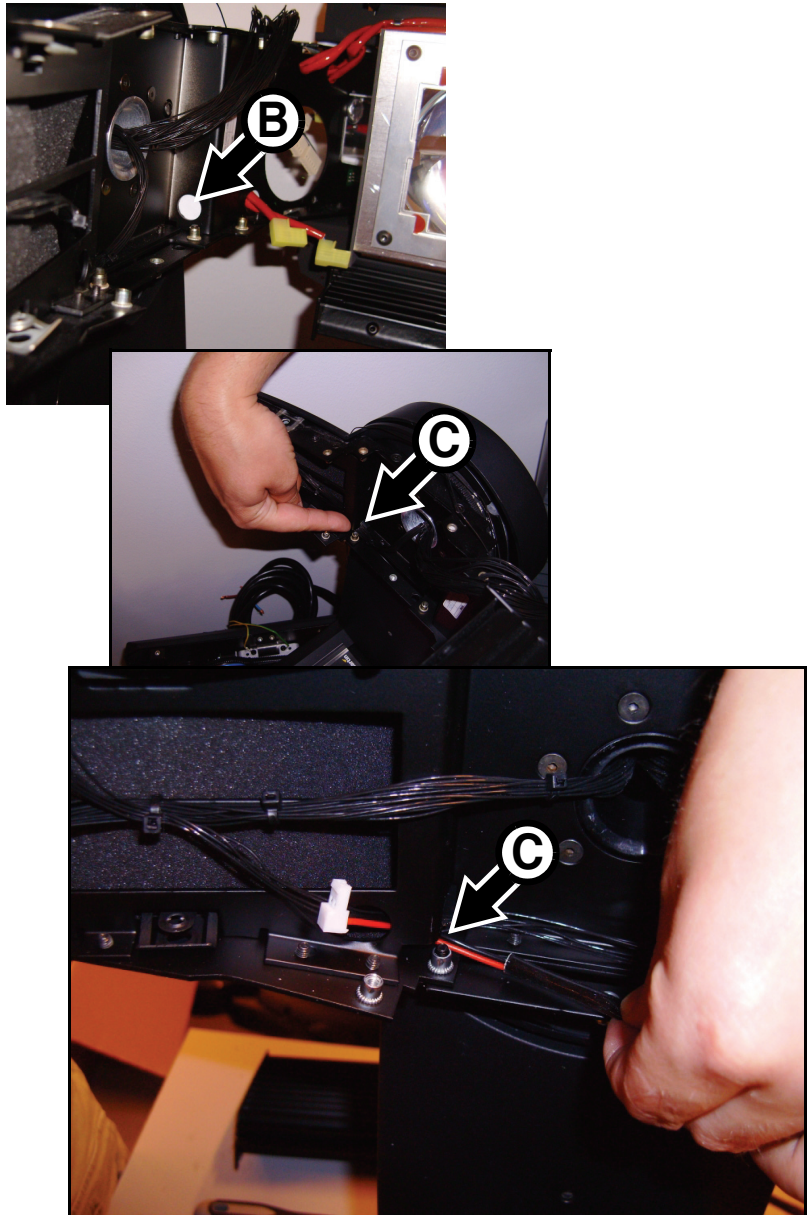

Figure 55
60. See Figure 55. Thread the right-hand side lamp fan leads through the holes provided for them behind (B) and in front of (C) the yoke pivot. You will plug the lamp fan leads into a connector on the zoom/focus module when you have installed this module later.